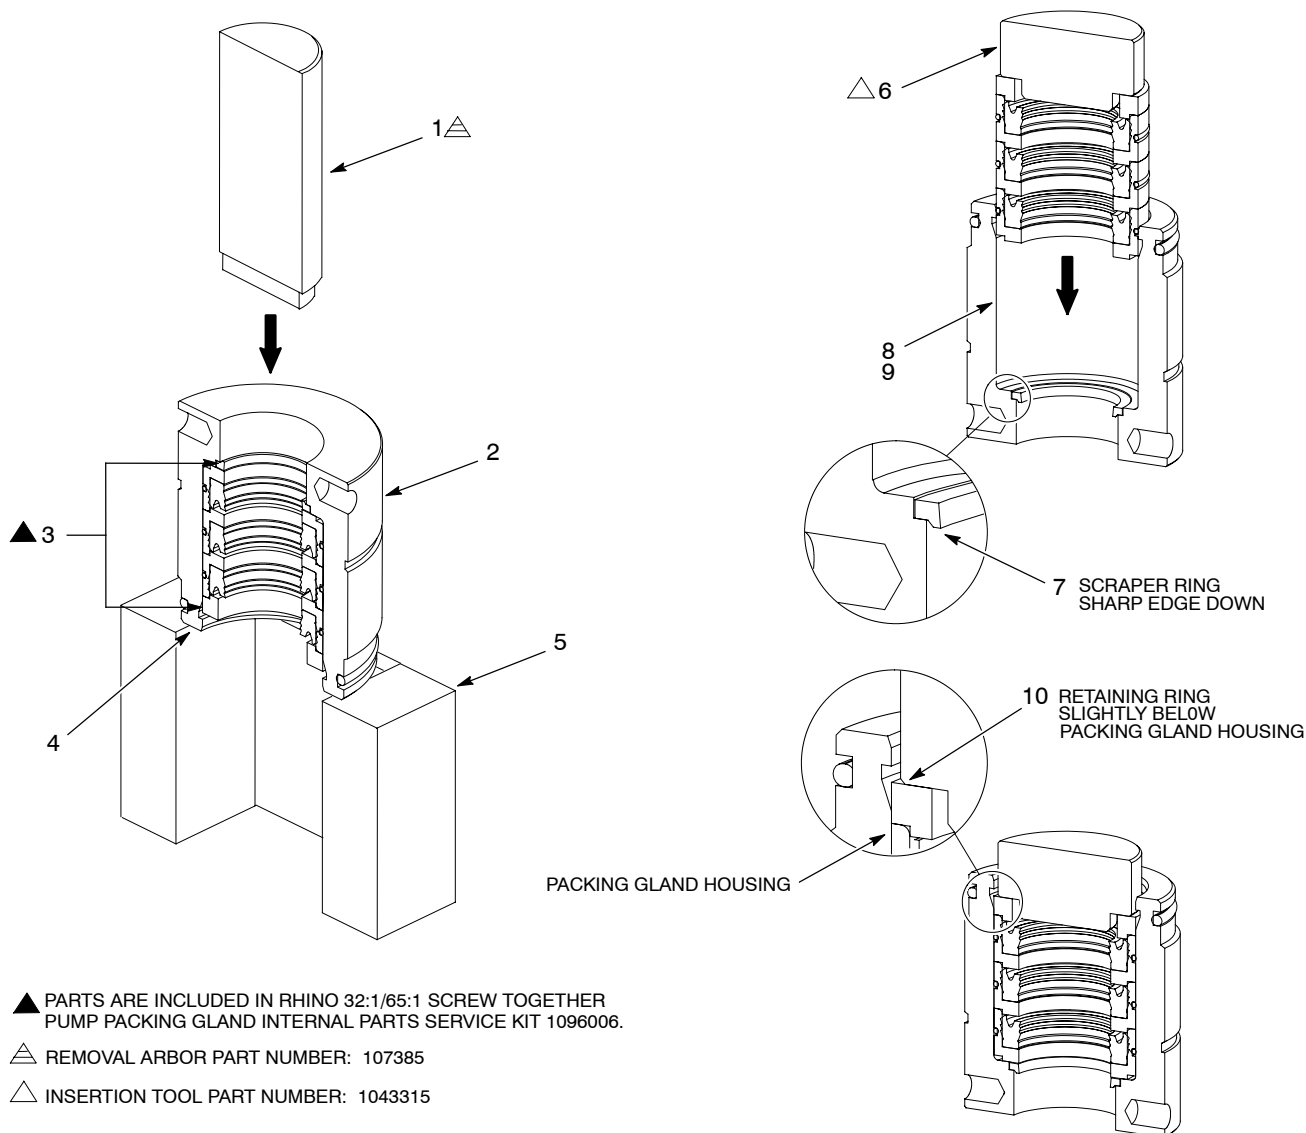

Figure 1 Internal Packing Gland Parts Replacement
1. See Figure 1. Remove the retaining ring (10).
2. Place the packing gland housing (2) on a fixture (5) with the solvent cup end facing up.
3. Insert the removal arbor (1) into the packing gland housing. Using the press, push out the internal parts (3).
5. Coat the bore (8) of the packing gland housing with O-ring lubricant (9).
6. Insert the scraper (7), sharp edge down, into the the packing gland (2).
7. Using the insertion tool (6) and press, insert the new internal parts into the packing gland housing (2).
8. Install the new retaining ring (10).